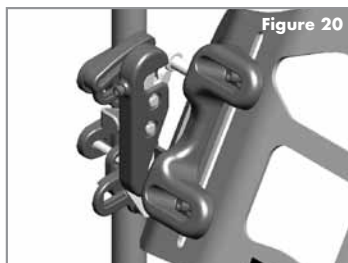

Figure 20
1. Guide the bottom two attachment pins into the lower receiver slots on the latch brackets (Figure 20).